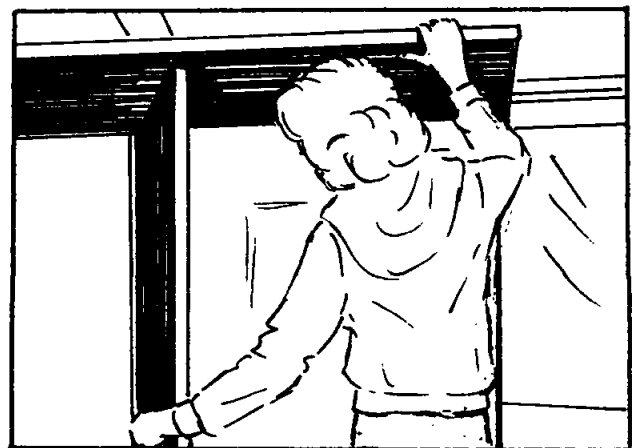

FIGURE 13
21. Raise bathroom wall to full vertical height including the uppermost fold-down section. Open the door to a 90° angle from the wall and lower uppermost folding section of wall on to the top door edge. See Figure 13.